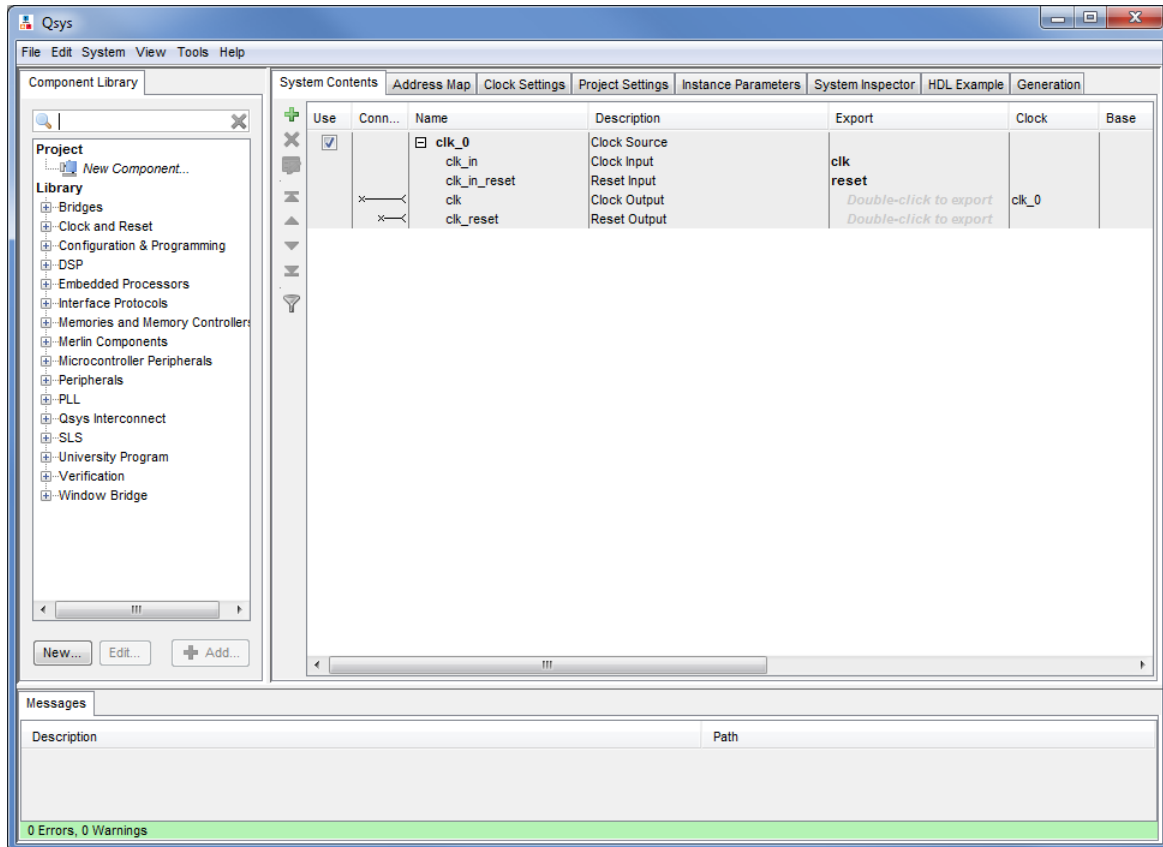
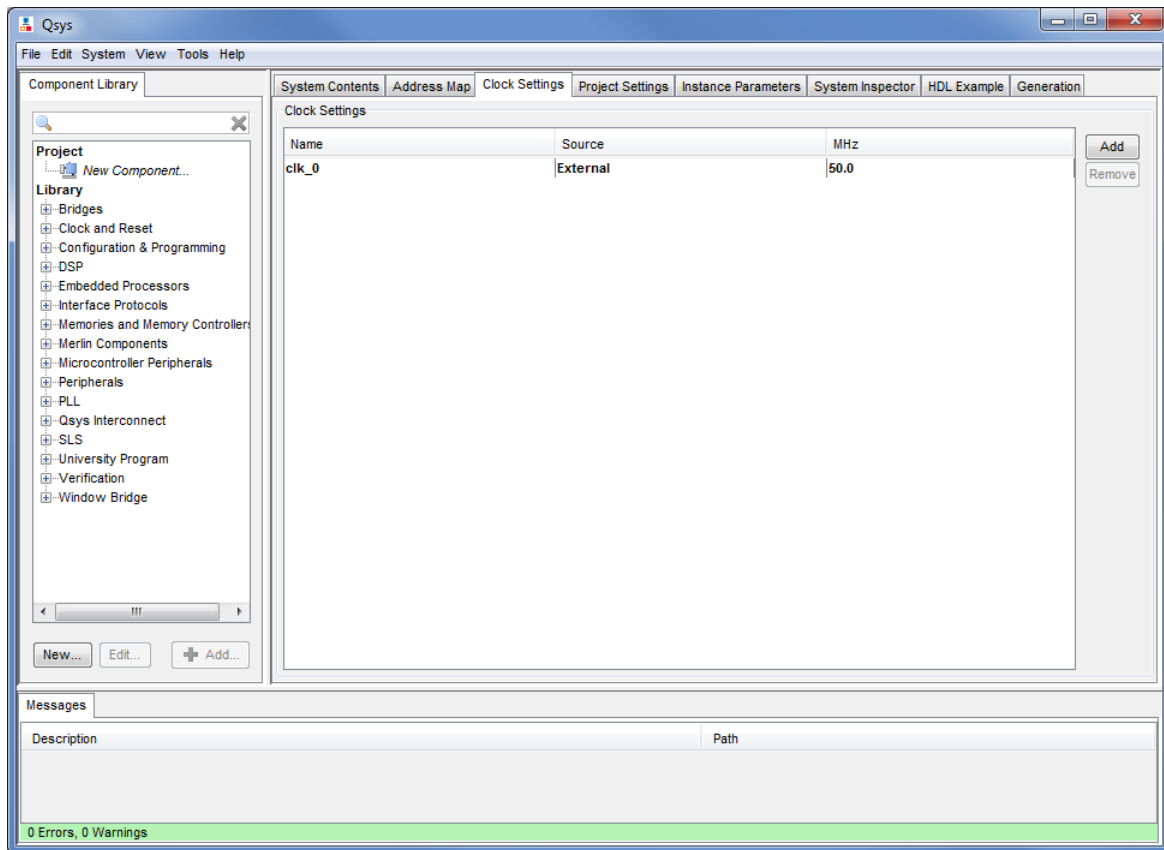

Figure 4. Create a new Nios II system.
Figure 5. The Clock Settings tab.
Qsys, which leads to the window in Figure 4. This is the System Contents tab of the Qsys tool, which is used to add components to the system and configure the selected components to meet the design requirements. The available components are listed on the left side of the window.
- The hardware system that will be generated using the Qsys tool runs under the control of a clock. For this tutorial we will make use of the 50-MHz clock that is provided on the DE2-115 board. In Figure 4 click on the Clock Settings tab (near the top of the screen) to bring this tab to the foreground, as illustrated in Figure 5. Here, it is possible to specify the names and frequency of clock signals used in the project. If not already included in this tab, specify a clock named *clk_0* with the source designated as External and the frequency set to 50.0 MHz. The settings are made by clicking in each of the three columns: Name, Source and MHz.